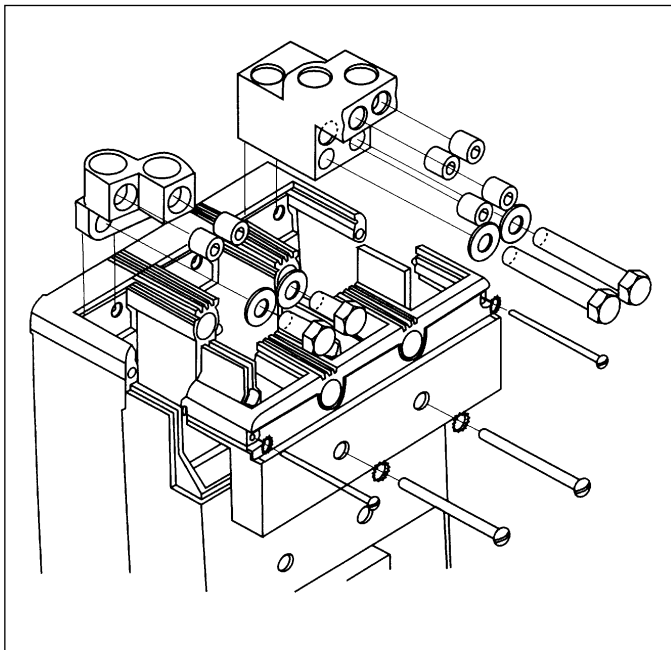
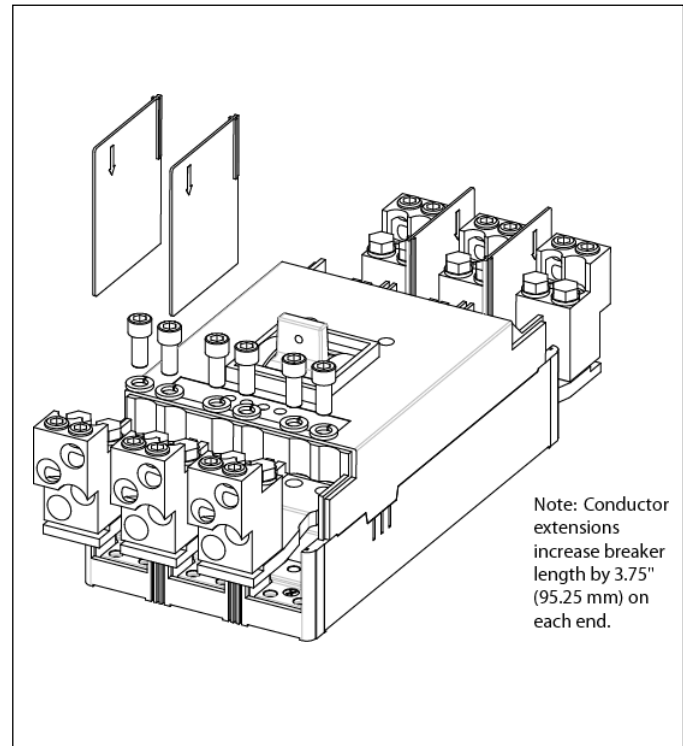
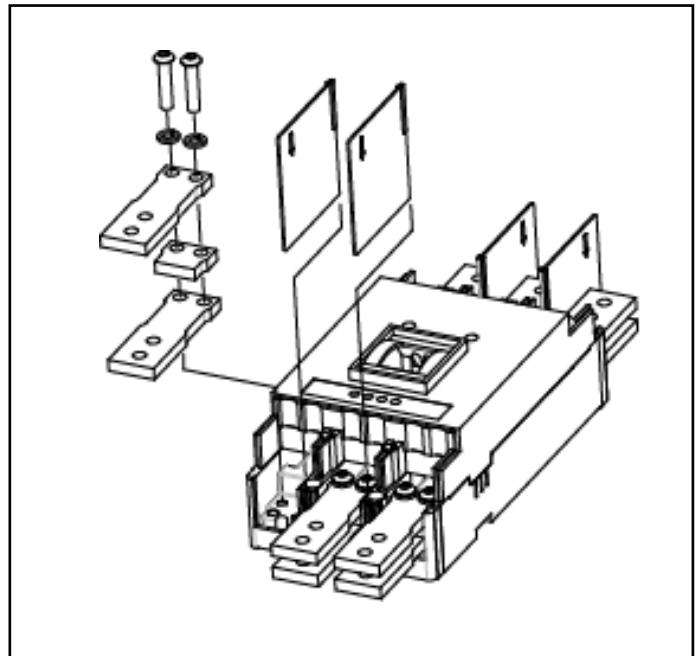

Figure 2-1 Terminal Installation
Figure 2-2 Conductor Extensions (Purchased Separately)
Figure 2-3a 1600 Amp Front Connector Installation
**100 Percent Rated N-Frame Circuit Breaker:** Circuit Breakers with a "C" prefix (CN...) in the catalog number are 100 percent rated circuit breakers and are suitable for continuous operation at 100 percent of the frame rating in an enclosure which measures at least 42 in. height, 22 ¾ in. width and 11 ½ in. depth. The 800A version requires no enclosure ventilation. The 1200A version requires 224 in2 ventilation on the front face of the enclosure (72 in2 bottom, 40 in2 left and 40 in2 right) The 1200A version also requires conductor extensions and terminal barriers (supplied with 100 percent rated breakers) as shown in Figure 2-2. Use only 90°C rated
**100 Percent Rated N-Frame(1200A breaker only):** Connect the supplied line and load conductor extensions as shown in Figure 2-2. For a four pole breaker do not connect the conductor extensions to the neutral pole.
If not already installed, mount terminals as shown in Figure 2-1 (100 Percent Rating Figure 2-2). To do this, the terminal cover screws must first be loosened and the terminal covers removed. (See Fig. 2-3a for 1600A Front Connect)
After the circuit breaker is installed and all connections are made, check all mounting hardware and terminal connection hardware for torque loading. Torque values for line/load terminal lugs are given on table in Figure 2-1. Torque mounting screws to 30-35 lb.-ft., (41-47 Nm).